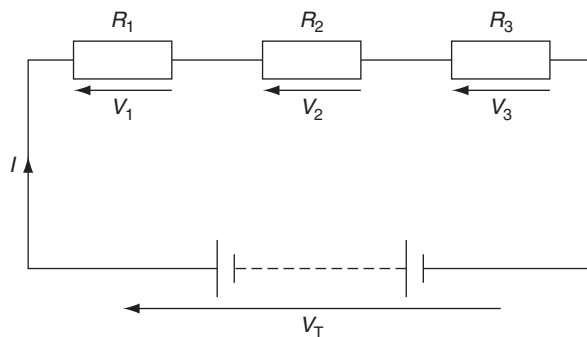

FIGURE 2.3
In any series circuit a current I will flow through all parts of the circuit as a result of the potential difference supplied by the battery and shown in Fig. 2.3.
- When the current flows through each resistor in the circuit there will be a voltage drop across that resistor as shown in Fig. 2.3.